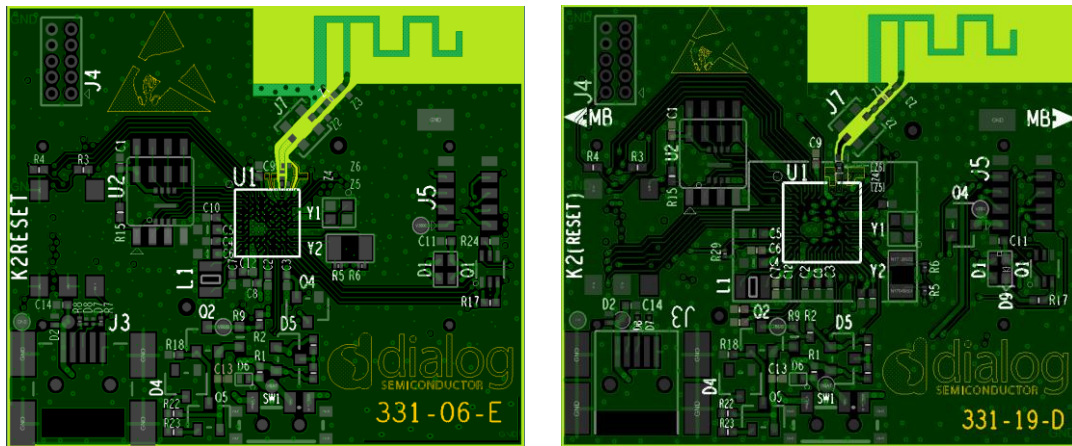

Figure 55: PRO-DB D2522-db-vfbga100_331_06-x (Left) and D2522-db-vfbga86_331-19-x (Right)
- PRO-daughterboard, VFBGA100: 2522-db-vfbga86_[331-19-x], Figure 55
- PRO-daughterboard, VFBGA86: 2522-db-vfbga100_[331_06-x], Figure 55